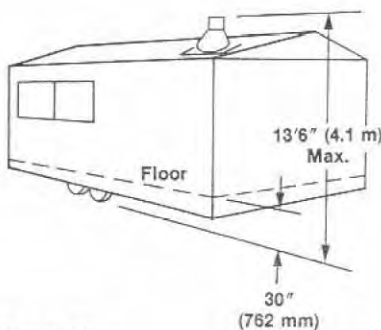

Figure 30
2) The height of flashing and chimney sections which project above the roofline shall not exceed 13'6" (4.1 m) from the ground level for transportation purposes. In Figure 30, it is assumed the floor level of the Manufactured Home is 30" (762 mm) above the ground.